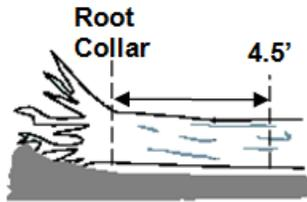

Figure 12 - Tree on the Ground
9. **Live Windthrown Tree:** Measure from the top of the root collar along the length to 4.5 feet (Figure 12).